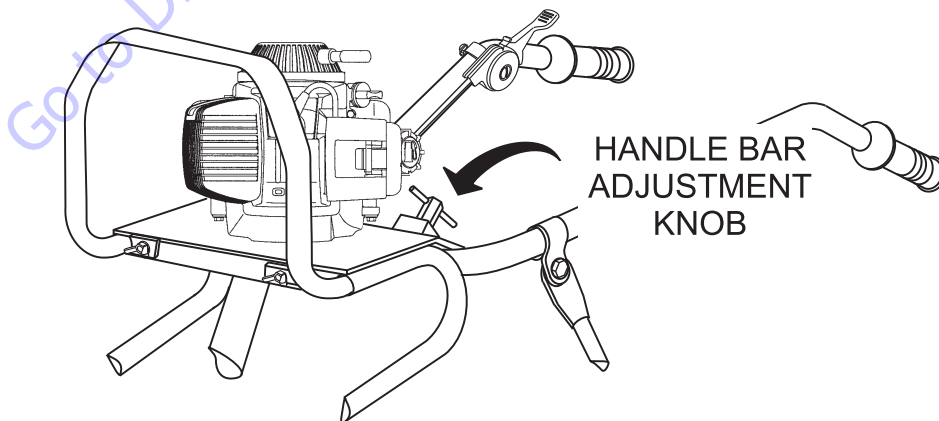

Figure 5. Handle Bar Adjustment Knob
- Two handle bar adjustment knobs (Figure 5) are located at the base of the steering handle bar. Loosen these two knobs to adjust the height of the steering handle bar to a suitable working position.